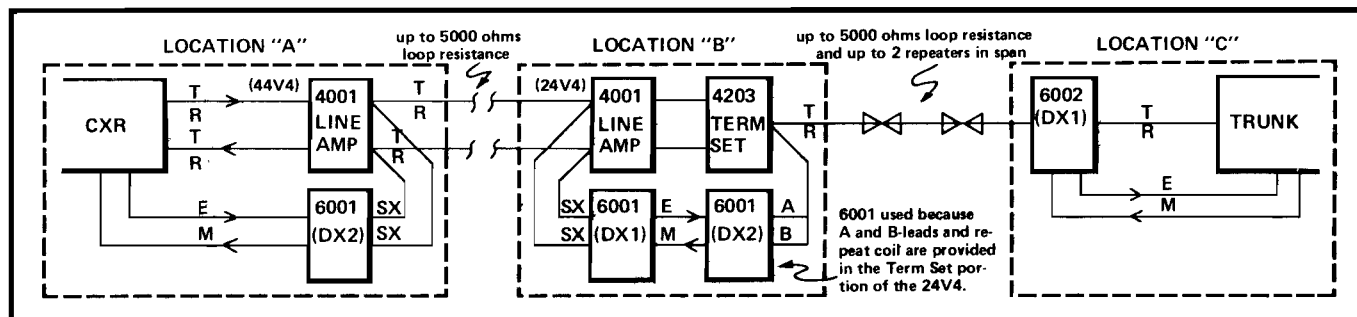

figure 2. Hypothetical circuit employing 6001 and 6002 DX modules in DX1 and DX2 modes
2.02 The 6002 module, with its integral repeat coil, is designed for use on 2wire facilities employing A & B-lead (composite) signaling. The 6001 is generally used on 4wire circuits employing simplex-lead signaling (see figure 2). A switch option on the 6002 module allows the repeat coil to be bypassed, thus conditioning the 6002 as the equivalent of a 6001 and allowing it to be used in 4wire applications. The 6001 can also be used with an external repeat coil in 2wire applications.
2.04 In either module, the DX1 or DX2 mode of operation is selected via switch option. In the DX1 mode, M-lead signals are input to and E-lead signals are output from the module. The DX2 mode inverts this scheme to provide M-lead output and E-lead input. This inverted (DX2) mode is required in tandem applications of DX Signaling units (see paragraph 2.06) or in other situations where an E & M-lead signaling interface (drop side) must be accommodated. (See figure 2, location A and location B). The DX2 mode eliminates the need for a pulse link repeater in these situations.
2.06 Tandem operation of DX Signaling modules may be used on loops longer than 5000 ohms. To provide tandem operation (see figure 2), an intermediate point (not exceeding 5000 ohms from the DX signaling module on either side, and where mounting and power are available) is selected, and two DX signaling modules are installed. In Type I interfacing applications, one module must be optioned for DX1 operation and the other optioned for DX2 operation. Because these modules interface each other only through E & M signaling leads, the inverted (DX2) mode must be assumed by one of the two modules. In Type II interfacing applications, both modules are optioned for DX1 opera-